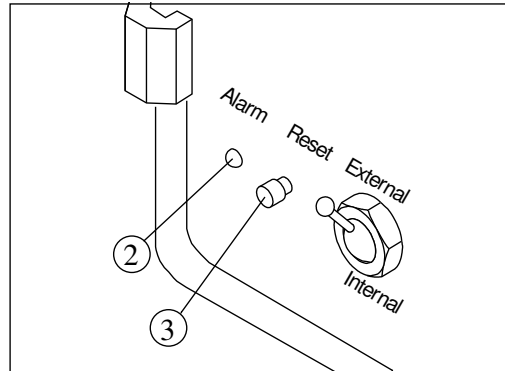

Figure 5.3.: TCU interlock.
The built-in TCU interlock is activated when a fault occurs within the TCU controller, e.g. prompt temperature rise. The interlock is by default an NC (Normally Close) relay contact and may be reset by pressing the reset button (3) shown in figure 5.3.
4. Press the RESET button (3) on the TCU rear panel (see figure 5.3).